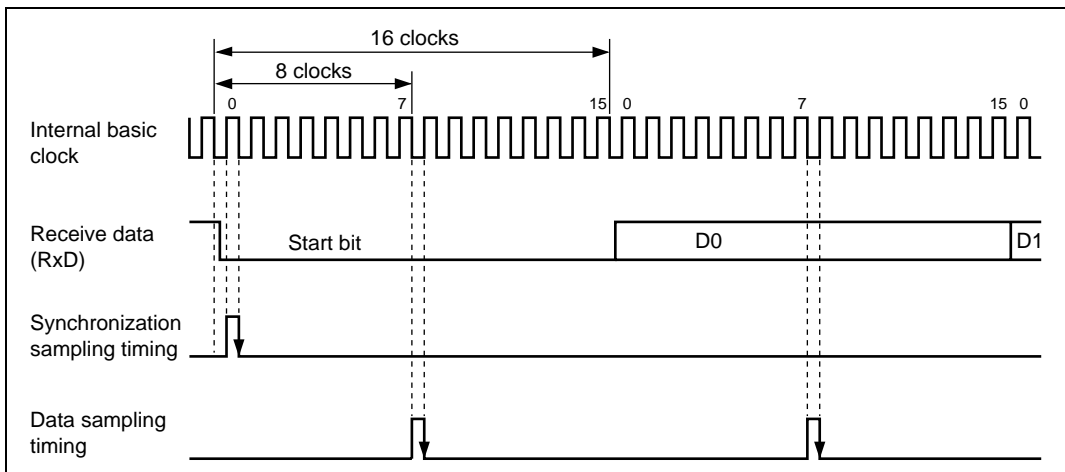

Figure 12.3 Receive Data Sampling Timing in Asynchronous Mode
In asynchronous mode, the SCI operates on a basic clock with a frequency of 16 times the bit rate. In reception, the SCI samples the falling edge of the start bit using the basic clock, and performs internal synchronization. Receive data is latched internally at the rising edge of the 8th pulse of the basic clock as shown in figure 12.3. Thus the reception margin in asynchronous mode is given by formula (1) below.